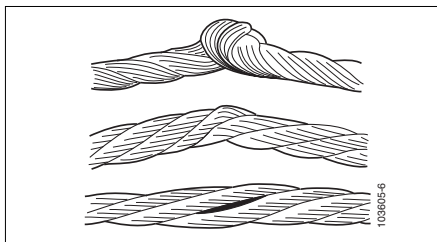

Fig. 6
- exterior damage or deformation (as in fig. 6.):